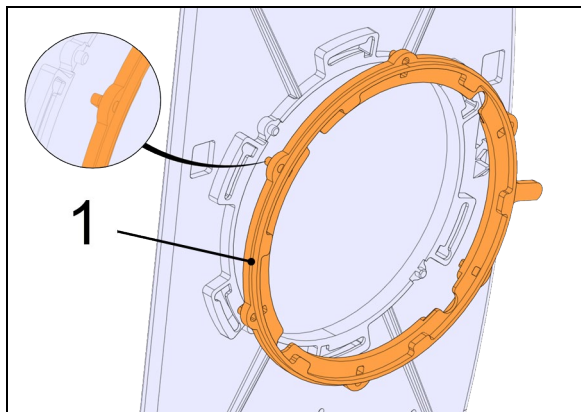

FIGURE 106: (1) LOCK RING
- Install the lock ring on the new glass mirror (item 1, Figure 106).